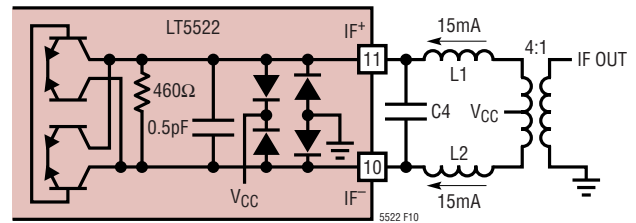

Figure 10. IF Output with External Matching
The IF outputs, IF+ and IF-, are internally connected to the collectors of the mixer switching transistors (see Figure 10). Both pins must be biased at the supply voltage, which can be applied through the center-tap of a transformer or through matching inductors. Each IF pin draws 15mA of supply current (30mA total). For optimum single-ended performance, these differential outputs should be combined externally through an IF transformer. Both evaluation boards include IF transformers for impedance transformation and differential to single-ended transformation.
Higher linearity and lower LO-IF leakage can be realized by using the simple, three element lowpass matching network shown in Figure 10. Matching elements C4, L1 and L2 form a 400Ω to 200Ω lowpass matching network which is tuned to the desired IF frequency. The 4:1 transformer then transforms the 200Ω differential output to 50Ω single-ended. The value of C4 is reduced by 1pF to account for the equivalent internal capacitance.
**Table 3. IF Matching Element Values (See Figure 10)**